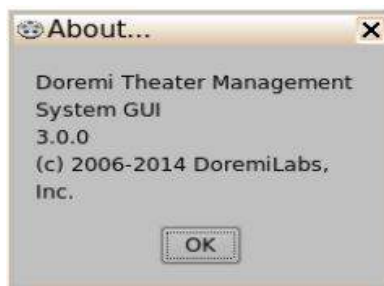

Figure 88: About Window
- Clicking on the About button will provide the TMS version information (Figure 88).